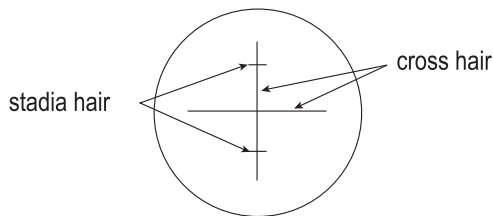
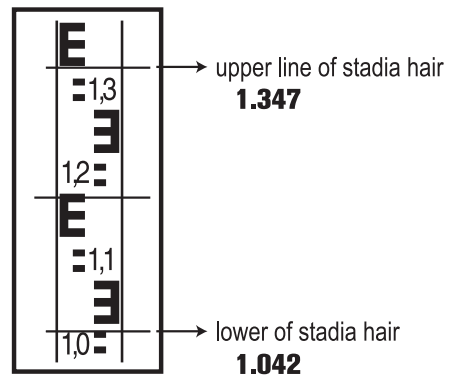

fig.5
fig.6
1. Aiming the leveling rod, record the value of upper and lower stadia hair( see fig.5) against the position of leveling rod (see fig.6)